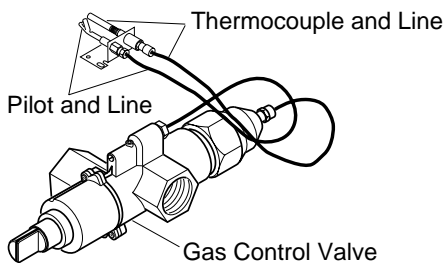

Figure 12 - Gas Control Valve with Thermocouple and Pilot
- Attach the pilot gas line to the pilot outlet of the gas control valve and tighten. Connect the thermocouple to the rear of the gas control valve. See Figure 12. Do not overtighten. If using propane/LP gas, see *Changing Pilot Orifice*.